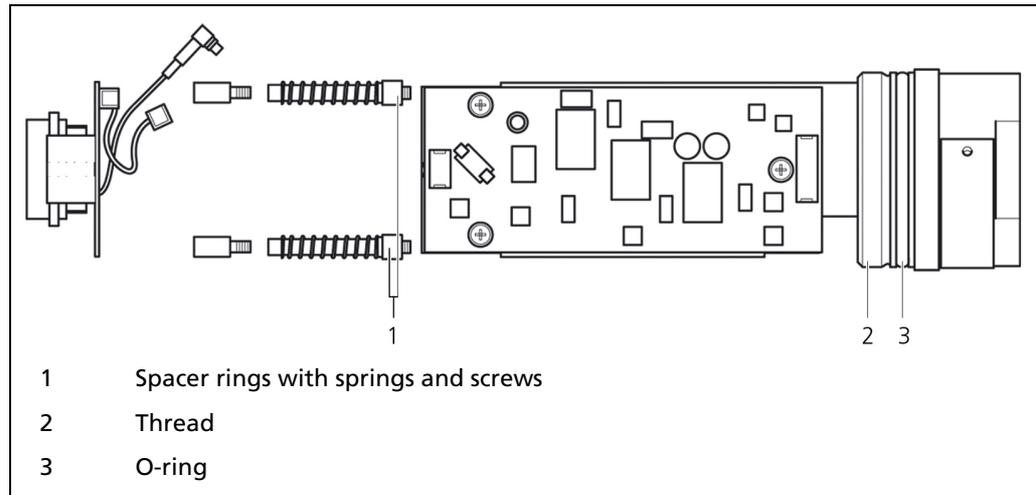

Fig. 41 PMT without Mu-metal shielding, spacer rings installed
13. Remove the screws and springs at the spacer rings and push on the spacer rings (Fig. 41, pos. 1) - if the shorter PMT is used - or remove them. Put the springs back on afterwards.